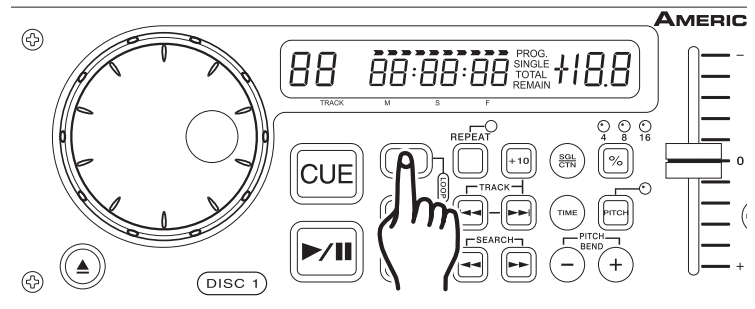

Figure 17
1) Press PLAY/PAUSE BUTTON (17) to activate playback mode.
2) Press the IN BUTTON (4). This will set the starting point of the SEAMLESS LOOP (figure 17). The IN BUTTON LED will blink.